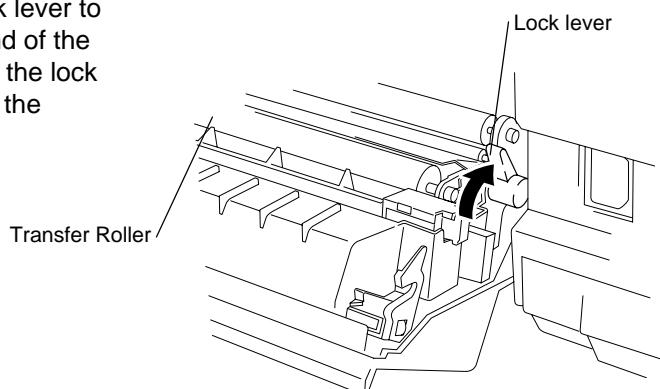

Fig.6-19
- 1) Lift the transfer roller lock lever to release the right hand end of the roller. The angle of lifting the lock lever is approx. 80° from the horizontal. (Fig.6-19)